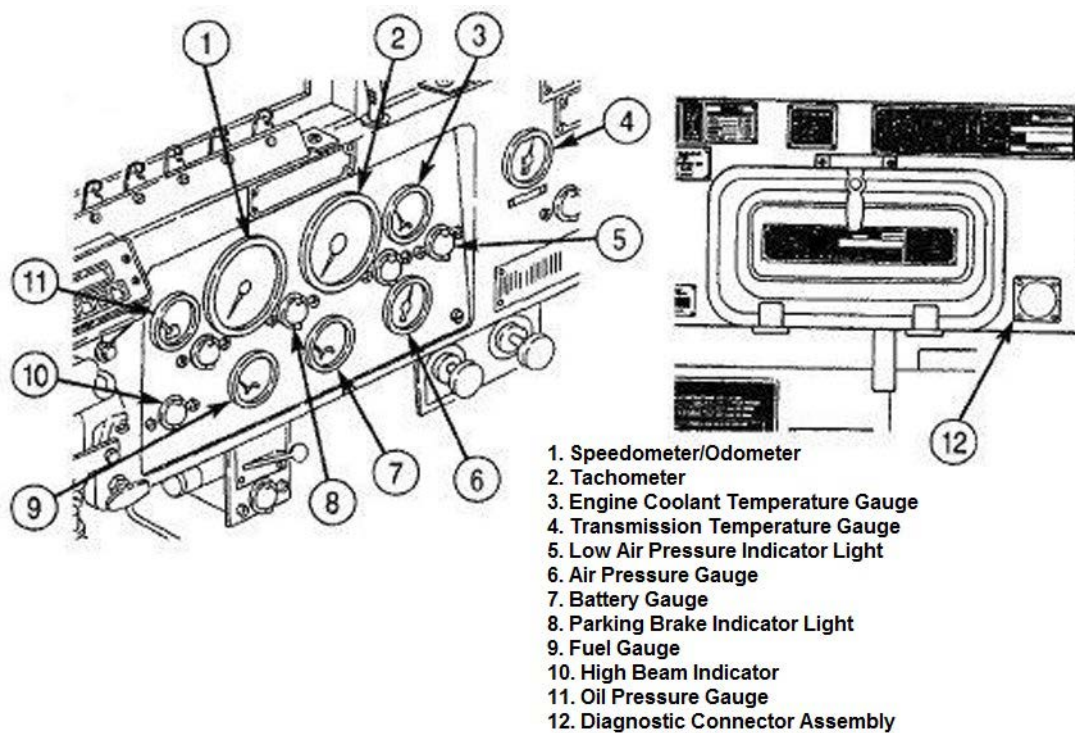

Figure 3-27. M35 cab interior, third view.
As we continue to discuss the second list of M35 cab interior components, refer to figure 3-27 for items 1 through 12 and figure 3-28 for items 13 through 20.